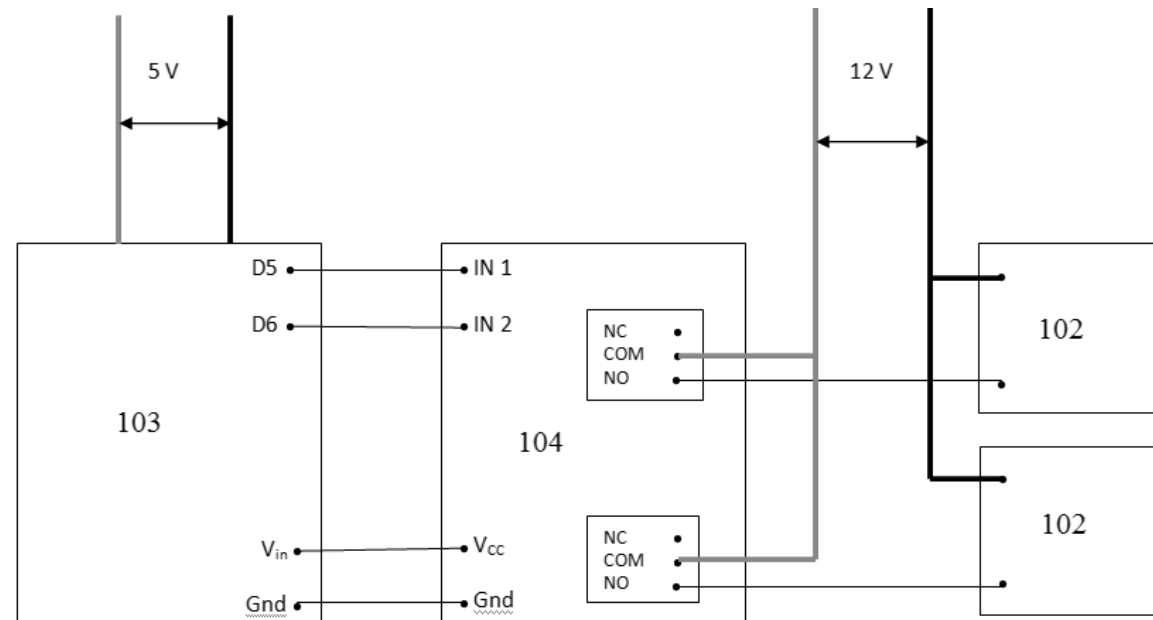

Figure 2A
- Figure 2A illustrates circuit of proposed invention. Whereas,